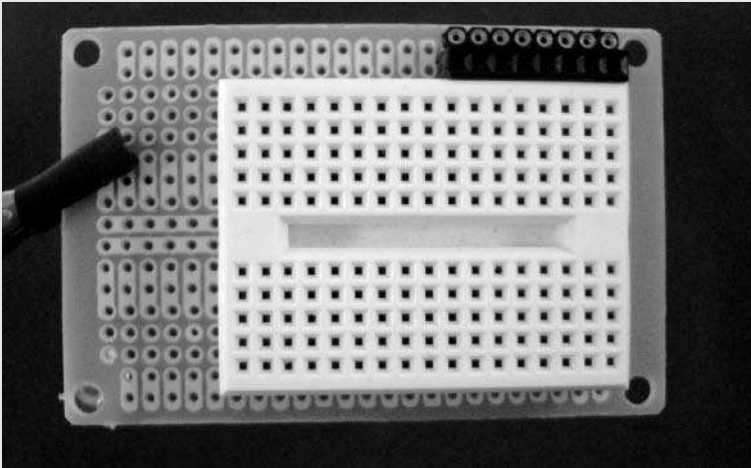

FIGURE 13-21: Attaching the solderless breadboard
5. Use the double-sided tape that came with the solderless breadboard and stick it to the top of the circuit board (see Figure 13-21).